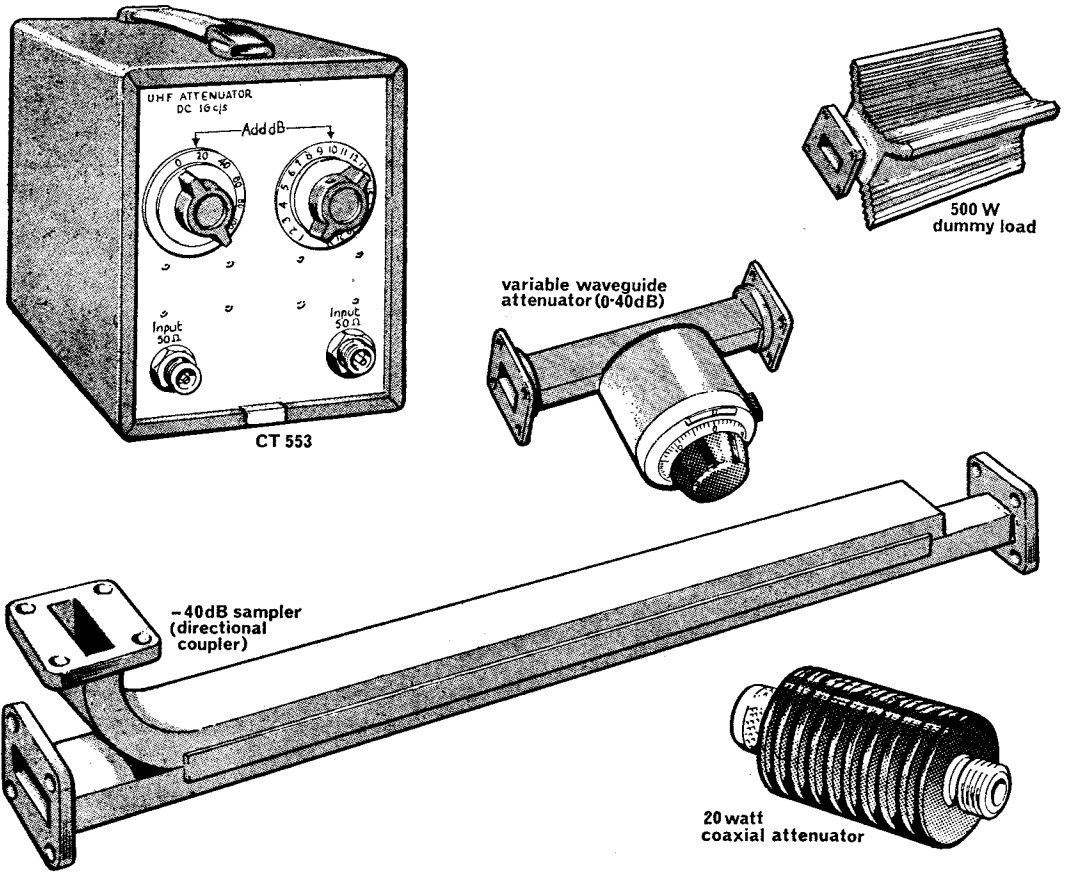

Fig. 13. Attenuators and samplers
22. To extend the range of thermal wattmeters, a wide range of fixed and variable attenuators is available. At microwave frequencies, particularly where high power levels are involved, it is usual to use directional couplers to measure a known sample of the power output from the source under test. Typical attenuators and couplers are shown in figure 13. Attenuators dissipate part of the applied power in a built-in load and this sets a limit to the *maximum* power which can be applied, and often to the time for which this power may be applied. The maximum power, both *average* and *peak*, which may be applied to a given attenuator input is always given in the specification and must not be exceeded as severe overheating will almost certainly damage the device. Directional couplers are usually used in waveguide systems and do not suffer from this limitation as the input power is only sampled and the excess is radiated from the aerial or dissipated in a separate dummy load. At the higher microwave frequencies most attenuators and couplers will only work satisfactorily at the frequency for which they were designed, but some are fitted with a tuning mechanism to correct their effective length for use at different frequencies. The accuracy of power measurements made through attenuators or couplers is *less than* direct measurement as the error introduced by the coupler has to be added to the instrument error. Most attenuators and couplers have an error of ± 0.1 dB up to about 0.8 dB which in terms of power uncertainty is from about 2% to about 20%. The switched attenuator shown in figure 13 (the CT553) will provide any attenuation from 0 to 142 dB in 1 dB steps and has an accuracy of about 5% (± 0.2 dB) at frequencies up to 1000 MHz.